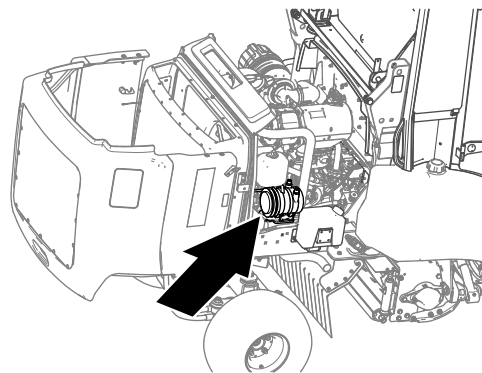

Figure 36
1. Unlatch and open the hood (Figure 36).